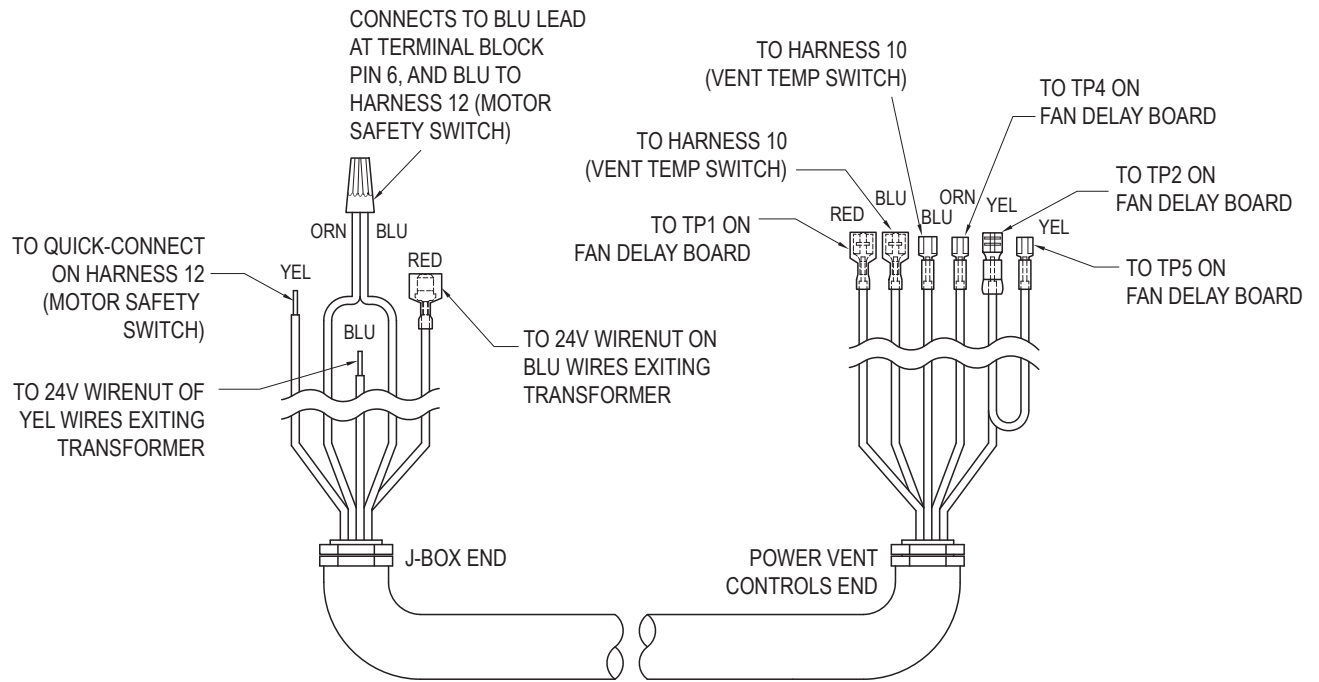

Figure 20. Harness 9, Models 2100-4001
10. Connect the HARNESS 9 wires to the J-box wiring per **Figure 20**. The wire that connect to HARNESS 12 remain unconnected for the moment.
12. Connect the HARNESS 9 wires to the J-box wiring per **Figure 20**.
14. Connect the HARNESS 9 wires to the PV control box wiring per **Figure 20**. The RED and BLU leads to harness 10 remain unconnected for the moment.
21. Connect the HARNESS 9 leads to the same-colored leads from HARNESS 9, inside the j-box, per **Figure 20**.